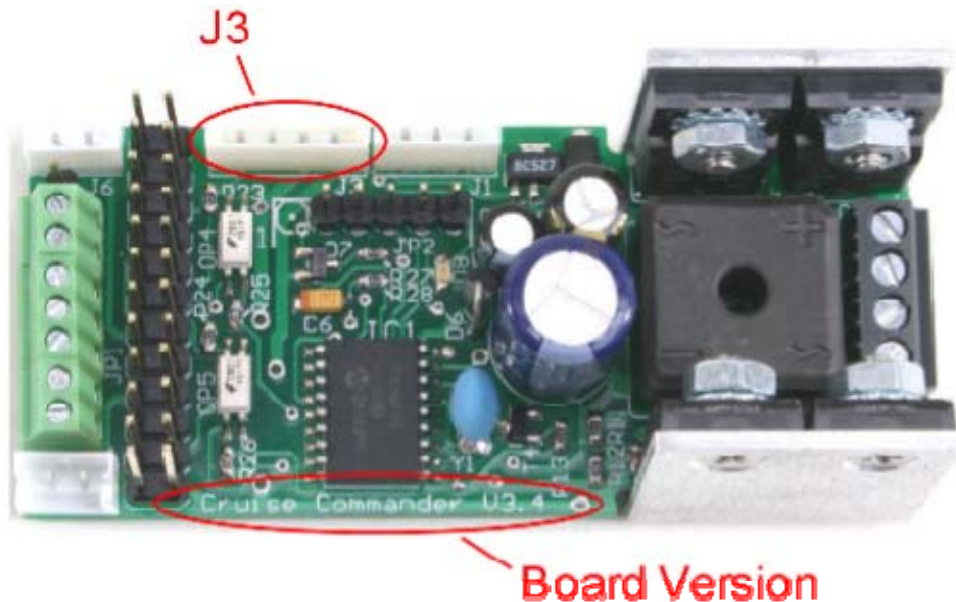
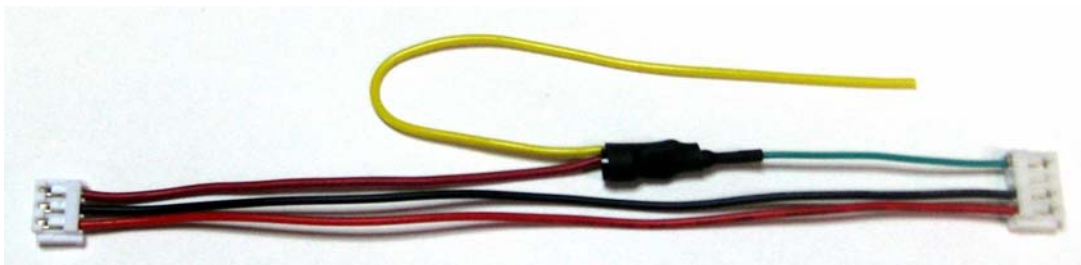

Figure 1 – Cruise Commander circuit board
Figure 2 – Buffer cable assembly
If interfacing a Railsounds Commander and a Cruise Commander, refer to Figure 1 and locate the Cruise Commander board version information. If the Cruise Commander is board version 3.4 or earlier then follow the instructions below. This Addendum does not apply to Cruise Commander boards that are version 4.0 and later.
1. Interconnecting the Railsounds Commander and a Cruise Commander, board version 3.4 or earlier (like the one shown in Figure 1), requires a special buffer cable assembly as shown in Figure 2.